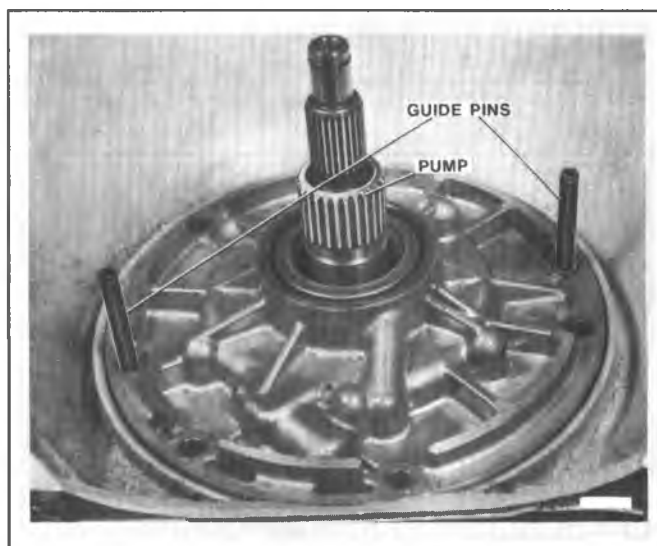

Figure 7A6-215 Installing Pump Assembly
11. Install pump assembly. Finger start pump to case bolts and new washers, except on bolt hole (Figure 7A6-214) which will be used to make the overdrive unit end play check.